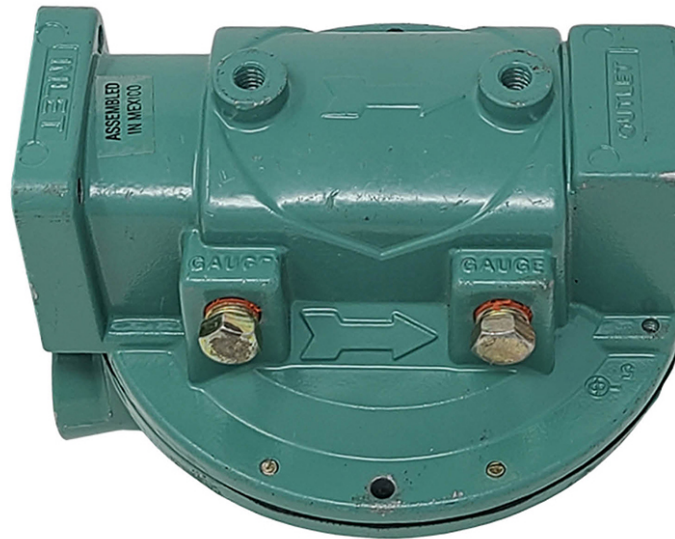

Figure 26. Regulators with pressure test ports
2. Install the pressure test equipment to sense downstream pressure. Some regulators will have threaded pressure plugs on the valve body to connect (Figure 26). But many will not have gauge connections and you will need to find an appropriate connection point.